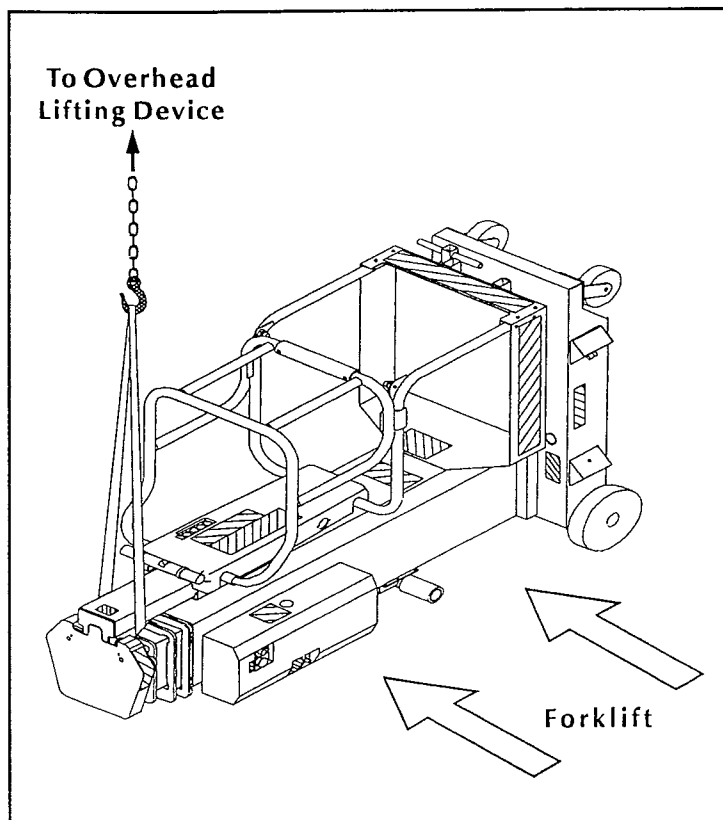

Figure 2-1: Lifting UL Lifts
5. Using a forklift, raise the machine up far enough to remove the base of the crate (Figure 2-1). Lower the machine.
4. Attach a lifting strap behind the cage support assembly and a to suitable lifting device (Figure 2-1). Lower the machine with the lifting device to the horizontal position.